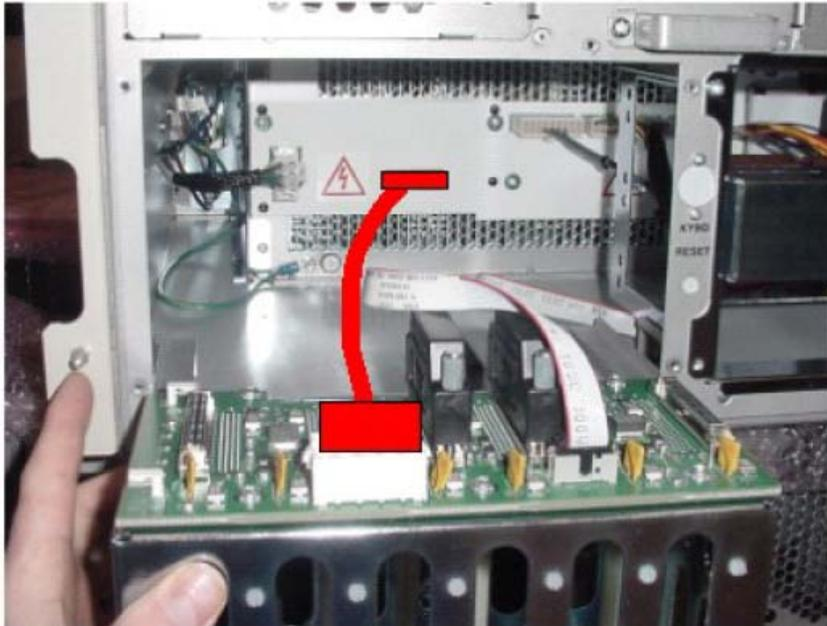

Figure 15: SCSI power cable attached to T board
13. Unplug the original power cable from the SCA backplane and from the T board inside the chassis. The power cable is schematically shown in Figure 15: SCSI power cable attached to T board on page 86.